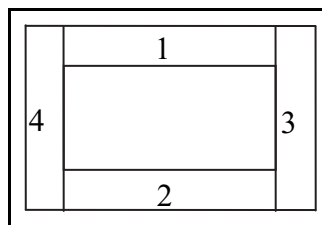

FIGURE 1.3. This is a graphical representation of the walk area decomposed into rectangles.
The length, l , of the sump is given as 50 ft. The width, w , of the sump is given as 34 ft. The maximum area of the walk, S , is given as 3540 ft^2 . Let the maximum width of the walk be x . The walk is made of four (4) rectangles as shown in Figure 1.3.
From Figure 1.3, the length of each of rectangles 3 and 4 is: